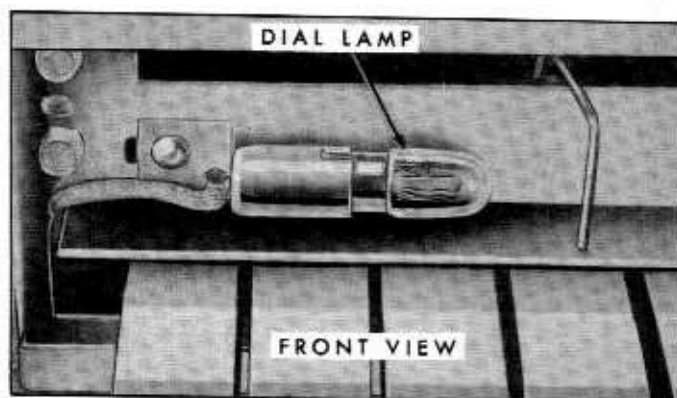

Fig. 11-2—Dial Lamp Location—(60C-7801)
1. Remove the radio from the car, and remove the dial and retaining plate. See figure 11-2.